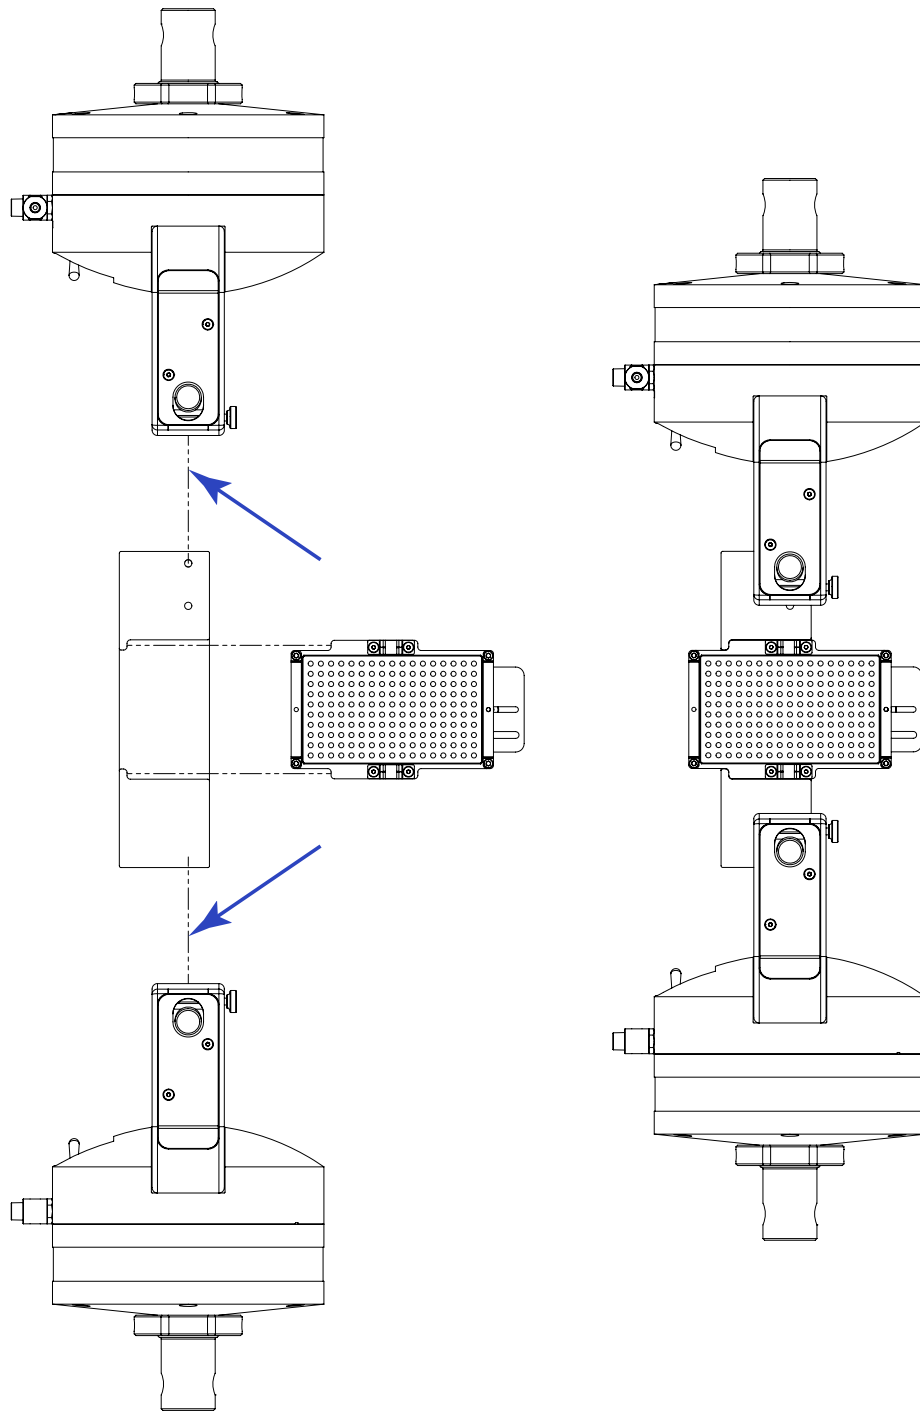

Figure 37. Calibration plate holder installed in grips
Figure 37 on page 70 shows the installation of the calibration plate holder into the grips.
1. Make sure that the holes in the top and bottom of the plate holder are aligned with the center of the grips, as shown by the two arrows in Figure 37 on page 70.
2. Install the plate holder in the grips in the diagram on the right hand side of Figure 37 on page 70.